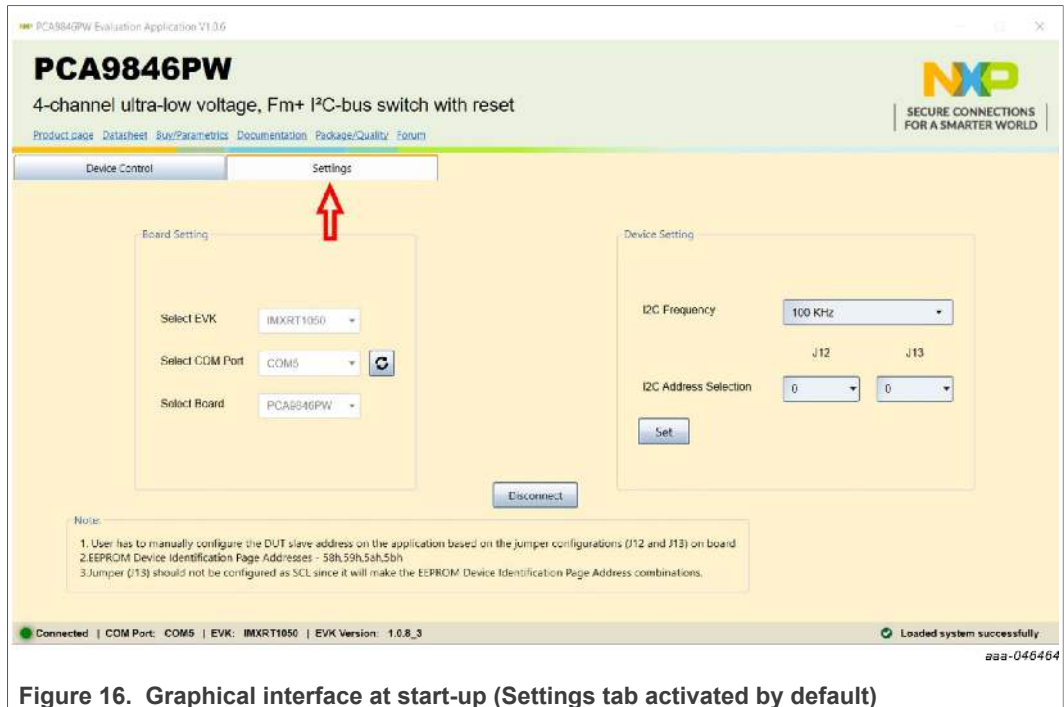

Figure 16. Graphical interface at start-up (Settings tab activated by default)
Once installation is complete, ensure that one of the mentioned three EVKs with attached PCA9846PW-ARD expansion board is connected to the PC and powered on. Open NXP\_GUI (PCA9617A, PCA9846) GUI application. An interface will appear as is shown in Figure 16.
The GUI application starts with the Settings tab (marked in Figure 16 with a red arrow). The left side of the window displays Board settings. The section provides the following settings:
- **Select COM port:** Displays port selected for communication. The port is automatically selected by the system. Figure 16 shows COM 5.
- **Select Board:** Allows the user to select the correct expansion board. The application can support two different boards. In Figure 16, the selected board is PCA9846PW. Selecting a wrong expansion board causes the connection to fail.